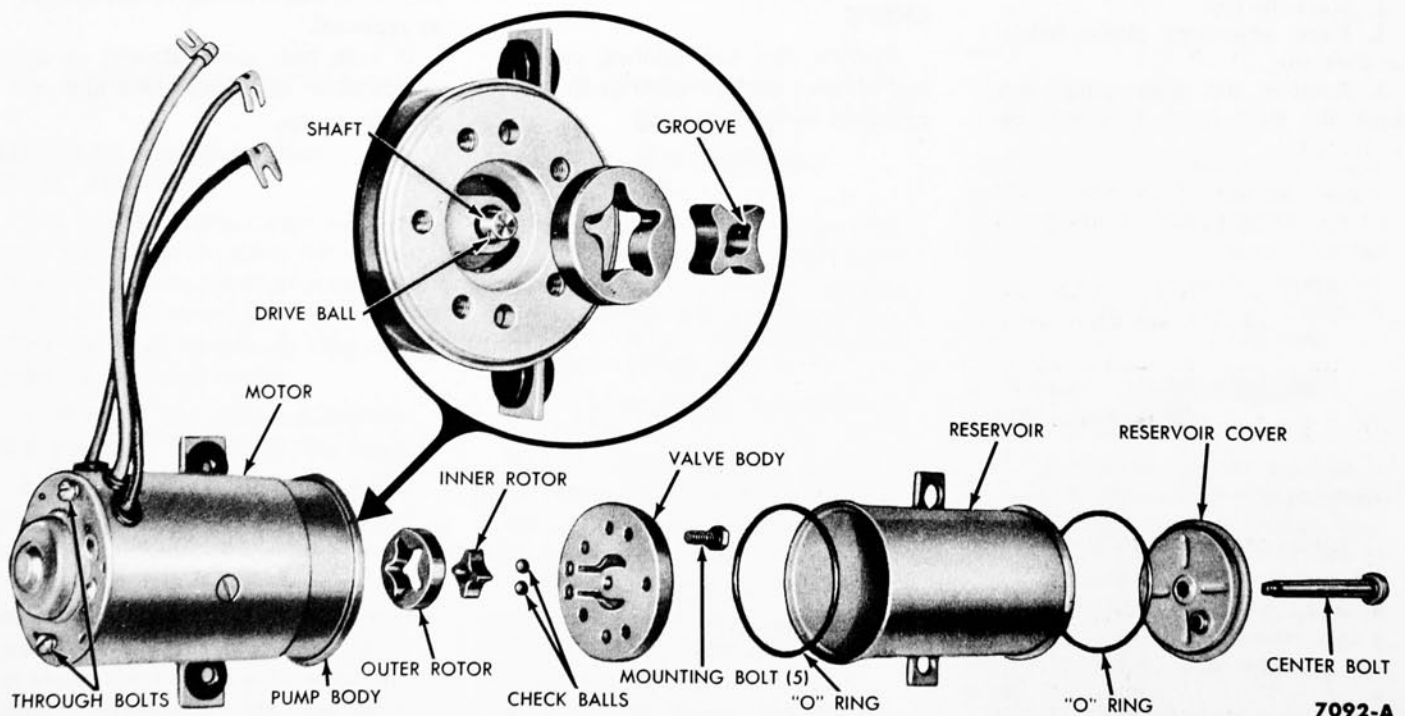

FIG. 2—Motor and Pump—Disassembled
3. Remove the center bolt from the reservoir cover (Fig. 2).
7. Remove both rotors and the drive ball (Fig. 2).